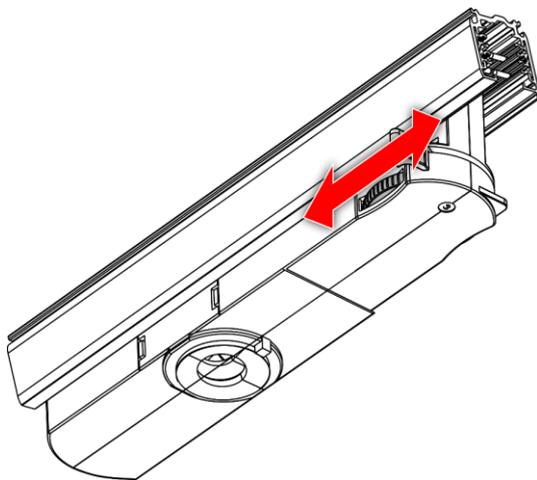

Fig. 08
- 06) Select the circuit with the **circuit selector (03)**. You can select 1-, 2- and 3-phase circuit, as shown in Fig. 08.